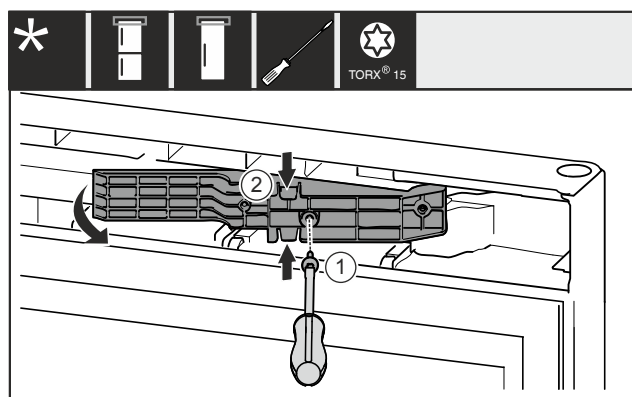

Fig. 12
- Remove the screw Fig. 12 (1).
- Gently press the adapter piece Fig. 12 (2) together at the top and bottom and pull it out.